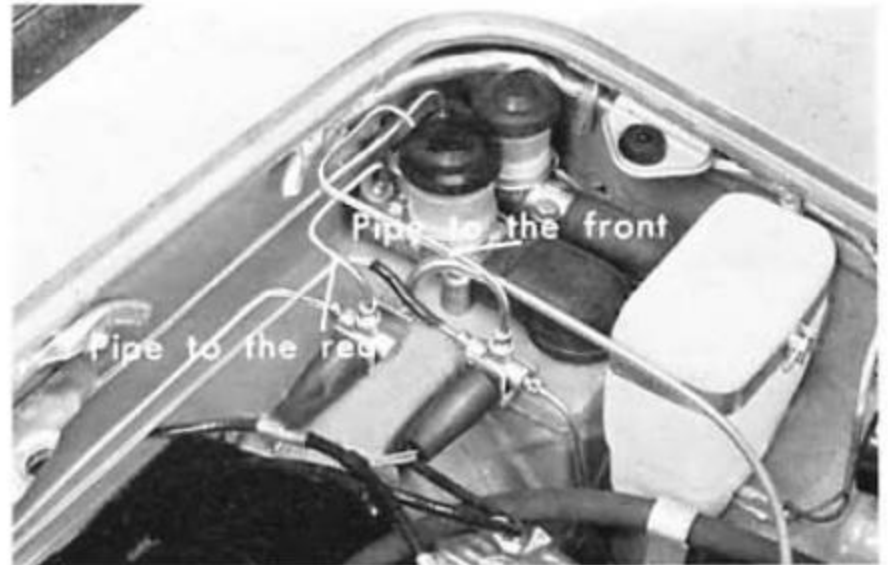

Fig. 11A-3
5. Remove the master cylinder circlip and then disassemble the return stop plate, master cylinder piston, primary cap, return spring, check valve and check valve seat (Fig. 11A-1).